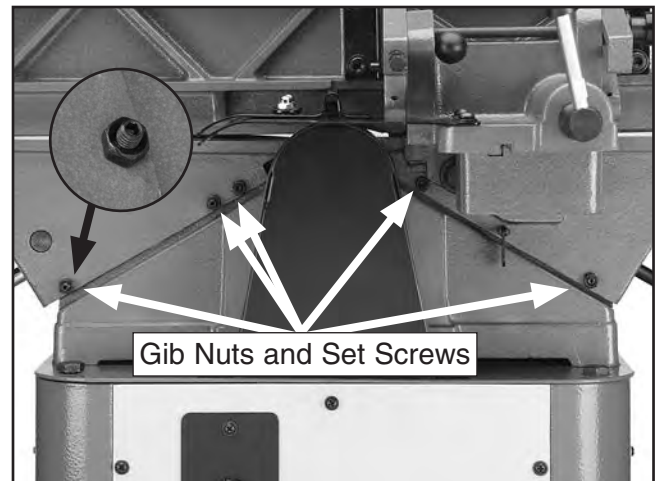

Figure 77. Table gib nuts and set screw locations.
1. Using a 10mm wrench, loosen the three infeed table gib nuts on the back of the jointer base (see **Figure 77**).